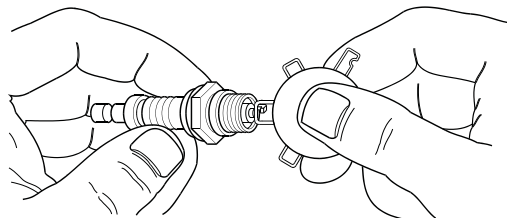

Figure 4-3: Spark Plug Gap Adjustment
5. See Figure 4-3. Check the spark plug gap using a wire feeler gauge, and compare with the figure provided in Section 2—Specifications. If the gap is out of specification, replace the spark plug. See Section 2—Replacement Parts.